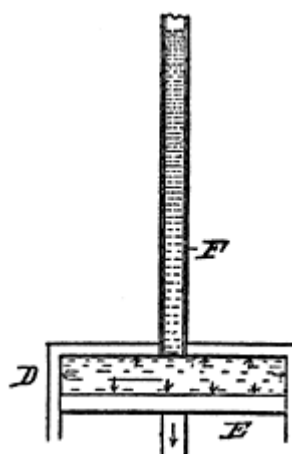

Fig. 132. Water Pressure
This same thing applies to water which, as stated, is dependent on its head. Fig. 132 represents a cylinder (D) with a vertically movable piston (E) and a standpipe (F). Assuming that the pipe (F) is of sufficient height to give a pressure of 50 pounds to the square inch, then the piston (E) and the sides and head of the cylinder (D) would have 50 pounds pressure on every square inch of surface.